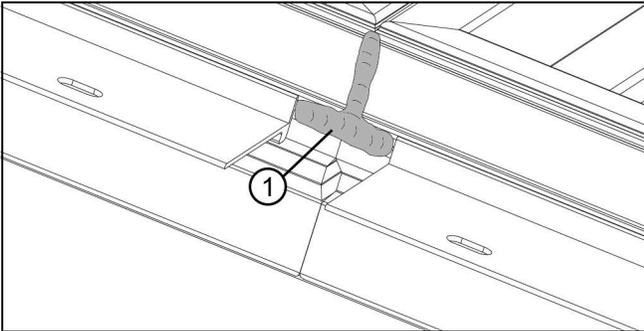
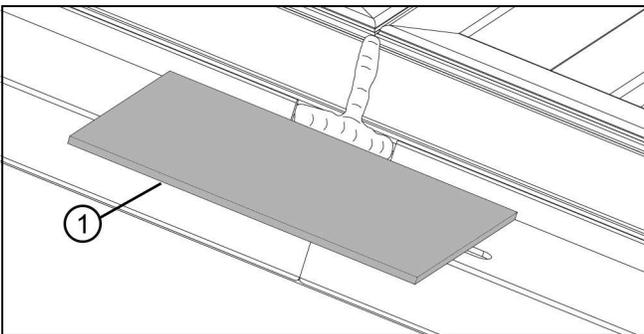

Figure 35
Figure 36
6. Apply silicone sealant at both mullion joints from the frame exterior edge to the drip cap/nailing fin kerf and across the kerf over the mulling pin as shown in Figure 35 and Figure 36. Apply the nailing fin connector by removing the paper backing from the connector and pressing into place.